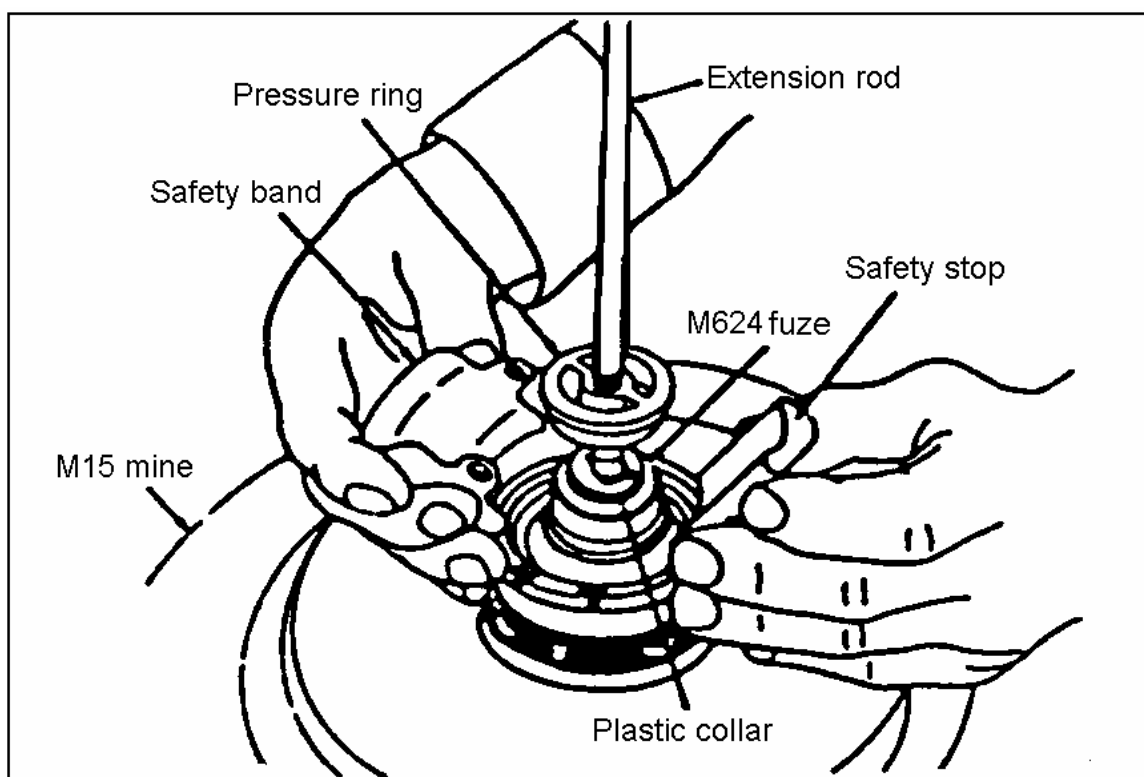

Figure 052-192-1106-1
**Remove an M15 Antitank (AT) Mine With the M624 Fuse**
- b. Assemble the safety band and safety stop on the fuse so that the pressure ring is immobilized (Figure 052-192-1106-1).